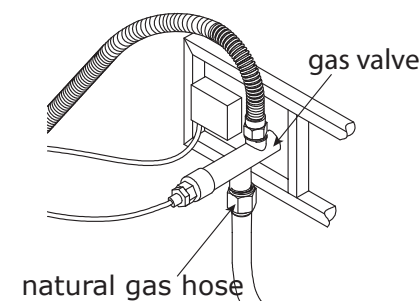

Figure 15
4. Connect the natural gas hose to the gas valve by screwing clockwise tightly (see Figure 15). Plug the natural gas fixture into the natural gas supply system (see Figure 16). The conversion kit should be CSA certified. Below are several suggested CSA certified conversion kits for your reference.